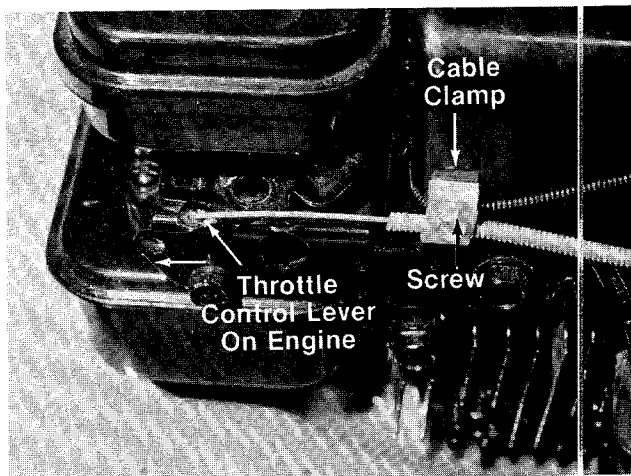

FIGURE 8—Units with remote throttle controls only.
10. Push the throttle control lever on the engine to the full open position (as far toward the outside of the unit as it will go) as shown in figure 8.
12. Loosen (do not remove) the screw on the cable clamp shown in figure 8. Slip the control casing under the clamp. With the throttle lever on the engine still in the full open position, tighten the screw to secure the throttle control cable.
1. Loosen, but do not remove, screw securing throttle control wire assembly at engine. See figure 8.